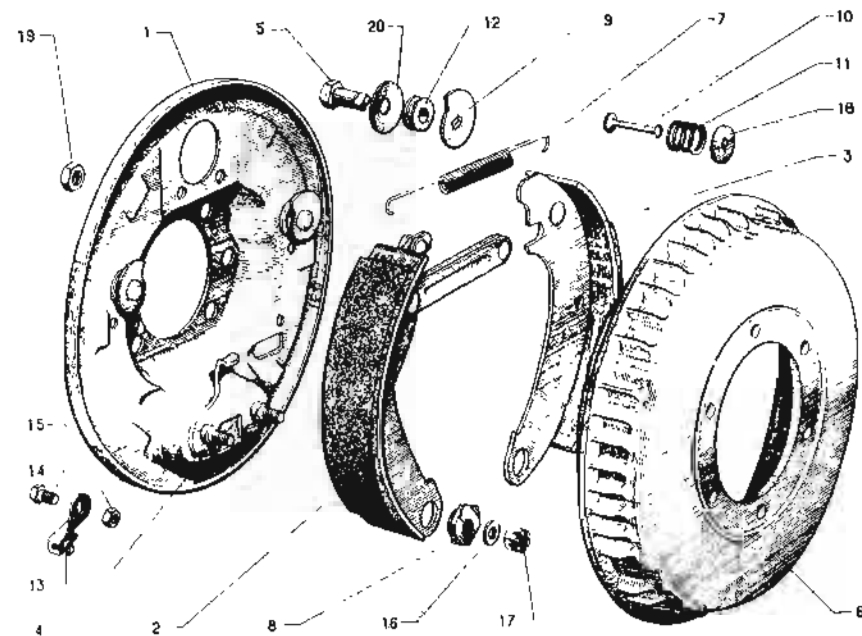

FIG. 37
**(vii) Renewal of the front brake linings (shoes). Fig. 37****(a) Removal.**